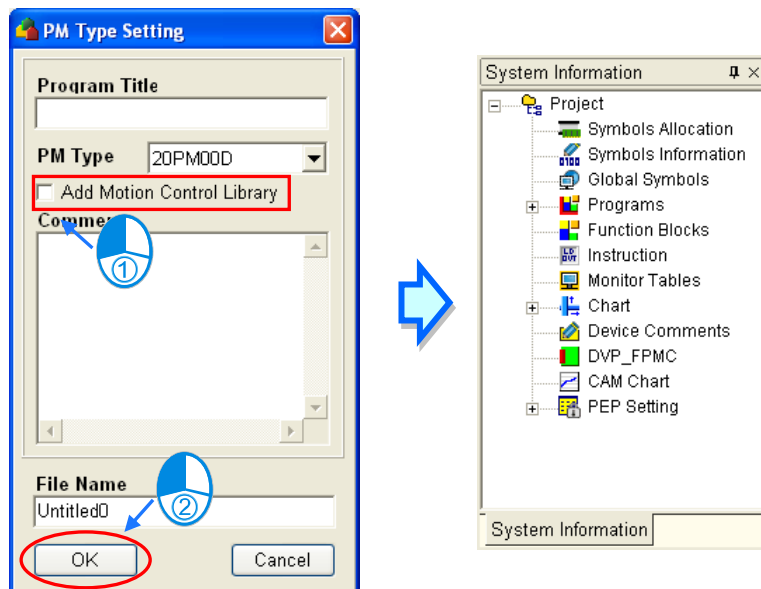

Figure 13-19 Not adding motion control libraries
- (1) If users do not need to add all libraries when they create a project, they have to unselect the **Add Motion Control Library** checkbox in the **PM Type Setting** window. Please see figure 13-19.